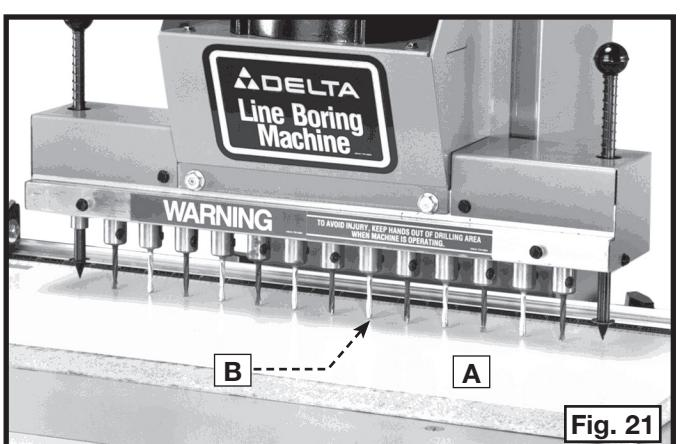

Fig. 21
1. Place a flat piece of wood (A) Fig. 21 on the table against the fence. Pull the operating handle downward until **ANY ONE** boring bit (B) contacts the wood. (A).